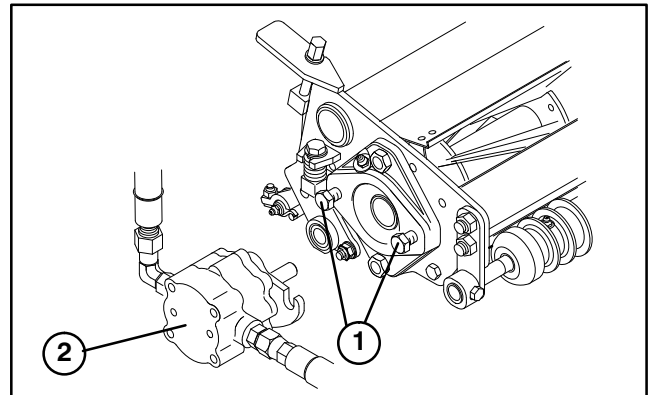

Figure 12
7. Assemble the mounting capscrews for the reel drive motor to each cutting unit. Leave approximately 1/2 in. of threads exposed on each mounting capscrew (Fig. 12).
10. Coat the spline shaft of the motor with clean grease and install the motor by rotating the motor clockwise so the motor flanges clear the studs. Rotate the motor counter-clockwise until the flanges are encircling the studs and tighten the mounting capscrews (Fig. 12).